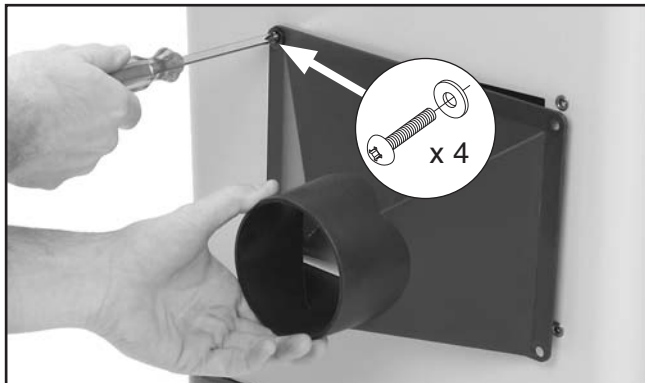

Figure 9. Installing dust port.
11. Attach the dust port to the stand with the pre-installed Phillip screws and flat washers, as shown in **Figure 9**.